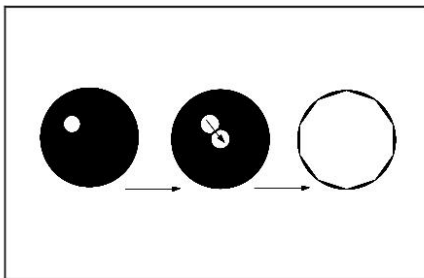

Fig. 14
Adjust the center adjustment screws ③ and move the specimen to the center of the field of view (Fig. 14).